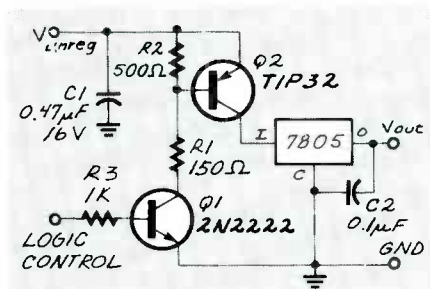

FIG. 3
The basic idea is shown in Fig. 3. Both Q1 and Q2 are set up as switches and their operation is controlled by the logic level present at the base of Q1. When a high is presented to the base of Q1, the resulting low at its collector pulls enough current through R1 to turn on Q2. Using two transistors is a good idea since Q1 not only does the needed inversion to properly control Q2, but it acts as a buffer to help isolate the controlling logic circuit from the power supply.
In the capacitance-meter article in the July 1989 issue of **Radio-Electronics**, Fig. 3 shows pin 7 of IC3 (the 555 astable) connected to R13
*You're right. The bottom terminals of R13 and R14 (connected to switch S3-b in Fig. 3 on page 39), and pin 4 of IC3 should be tied to +5V, not ground. However, pin 6 is correctly connected to C6. Although wrong in the schematic, the PC board and Parts-Placement diagram are correct.*